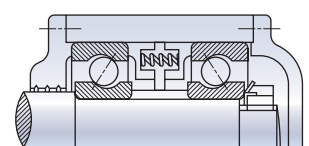
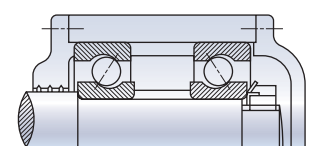
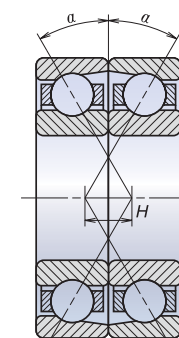
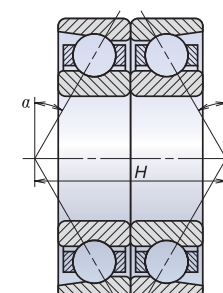

Fig. 11 Preload application by spring
Fig. 12 Preload application by spacer (on free-end)
Fig. 13 Front-to-front duplex bearings
Fig. 14 Back-to-back duplex bearings
another way in which preload may be applied to a bearing: using a spring as shown in Fig. 11. In this preloading method, the size and compression of the spring can be determined from the amount of preload. Several springs of proper size are placed at the circumference. In many cases, preloading by means of springs is conducted to lessen radial deflection. As shown in Fig. 12, applying preload to a bearing with spacers inserted into both inner and outer rings is an excellent method. This method facilitates mounting and ensures the proper application of preload. One spacer is slightly longer than another, and the dimensions of individual bearings differ slightly. For this reason, since we cannot say that similar length spacers can be applied to all bearings, the specific length must be measured and determined individually when combining bearings. Single-row angular contact ball bearings are not used independently, but always in pairs. They can be combined as front-to-front duplex bearings (DF) as shown in Fig. 13, or back-to-back duplex bearings (DB) as shown in Fig. 14.